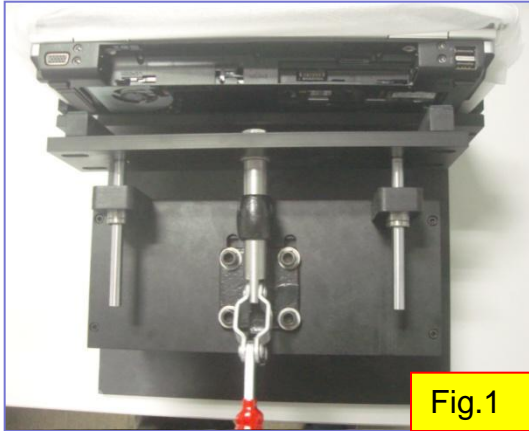

Fig.1
1. Put the notebook on the hinge cover support fixture. (Fig.1)